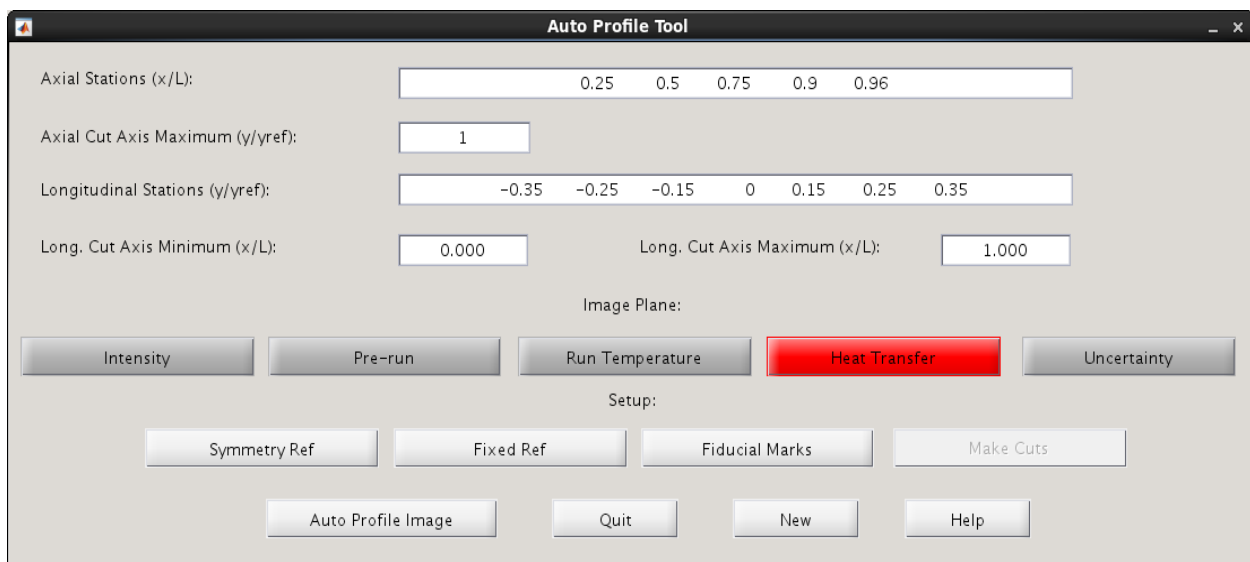
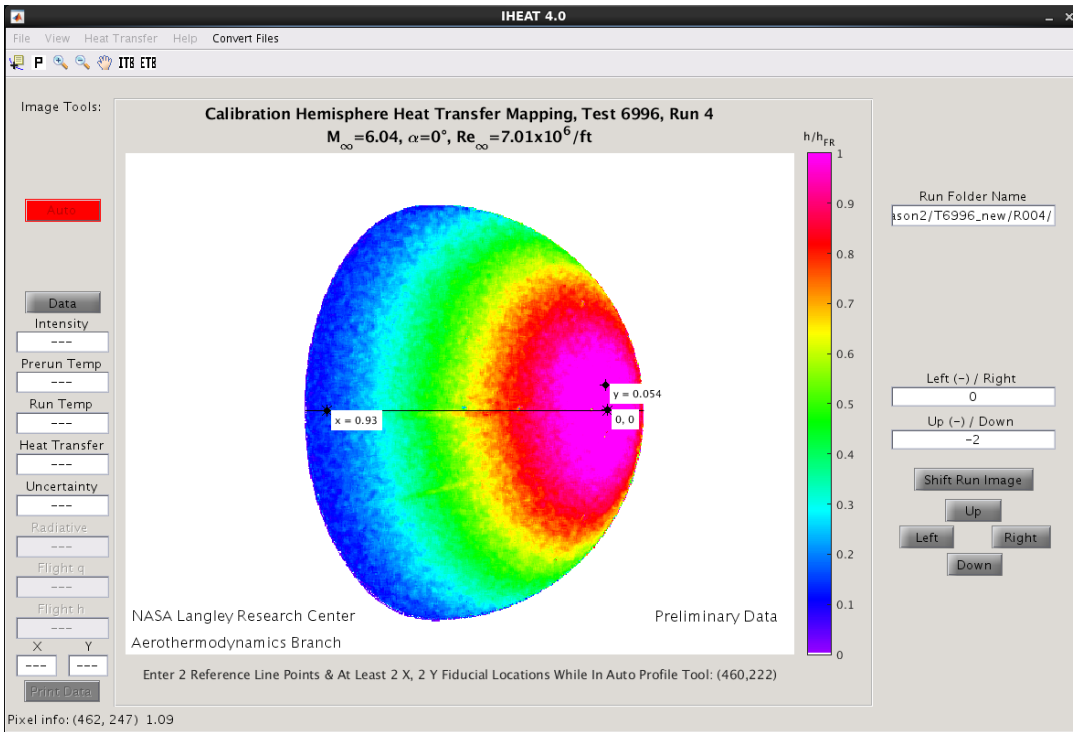

Figure 19: Image Tools, *Auto Profile*.
Figure 20: Image Tools, *Auto Profile*: Reference Line and Fiducial Marks.
3. *Auto Profile*: When the *Auto Profile* tool is first entered, the button that corresponds to the visible image plane is highlighted, and the line cuts extracted from the set-up file are displayed in a tab-delimited list. A different plane is displayed when the corresponding button in figure 19 is clicked. To add a new line cut location, the user can type in the x/L or y/y_{ref} location in the appropriate text box, leaving at least one space between the values. The line cuts do not have to be entered in order numerically, because these lists will be rearranged automatically. The user can enter a maximum of 25 axial and 25 longitudinal line cuts.
As figure 19 shows, the *Auto Profile* tool in IHEAT v4.0 requires the user to select the *Fixed Ref* or *Symmetry Ref* option to begin an *Auto Profile* analysis. The *Make Cuts* option is disabled until the reference line and fiducial marks are placed on the image as shown in figure 20. The first time the *Auto Profile* tool is entered for a run and either the *Fixed Ref* or the *Symmetry Ref* button is pressed, the user must enter at least two x and two y values in fiducial marks before closing *Auto Profile*.
As figure 20 shows, the fiducial mark values are labeled in IHEAT v4.0. The user can either enter one or both of the nondimensional values for a given fiducial mark, which correspond to x (or x/L) and y (or y/y_{ref}). Examples of the labels in each case are shown in the figure. If the *Auto Profile* tool is later reentered, these labels are again visible. *View > Refresh* can be used to hide any marks or lines that are still visible after the *Auto Profile* tool is exited.